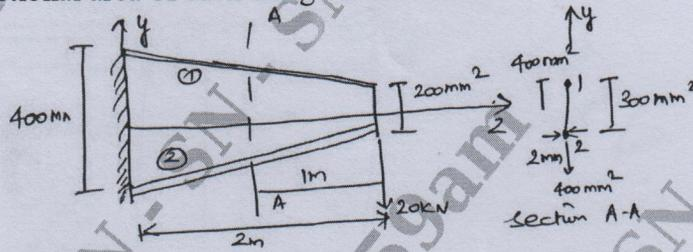

Fig. Q8
8. Determine the shear flow distribution in the web of the tapered beam shown in Fig. Q8 at a section midway along its length. The web of the beam has a thickness of 2 mm and is fully effective in resisting direct stress. The beam tapers symmetrically about its horizontal central axis and a cross sectional area of each flange is 400 mm^2 . (16 Marks)